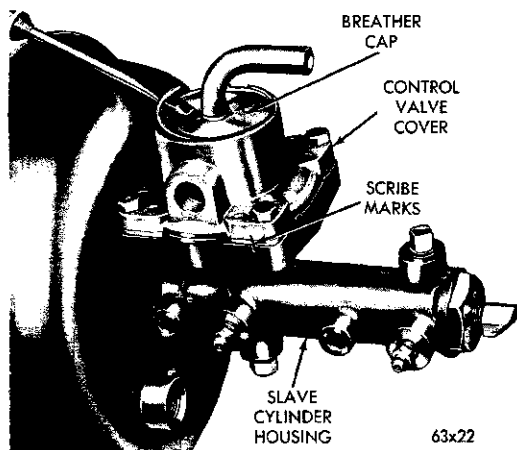
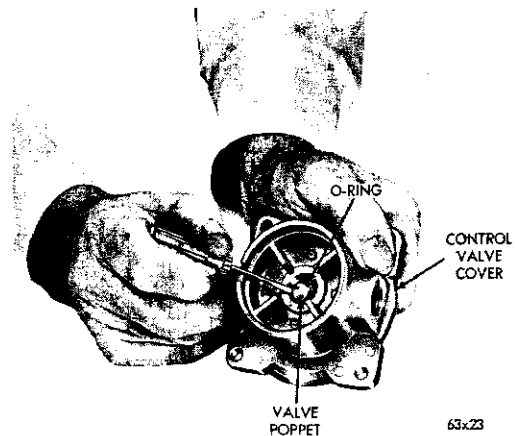

Fig. 38—Control Valve Housing
Fig. 39—Control Valve Poppet
(4) Scribe reference marks on the flanges of the control valve cover and slave cylinder housing. Remove the large snap ring and breather cap assembly from the control valve cover (Fig. 38). Remove four cap screws and lock washers that secure the control valve cover to the slave cylinder housing, and separate the two housings. The air check valve assembly consists of a metal poppet, a spring, and an "O" ring which seats in a counter bore in the control valve housing. Compress the air check valve spring and, using a slender screw driver remove and discard the small "O" ring from the check valve poppet (Fig. 39). Remove the poppet and spring.